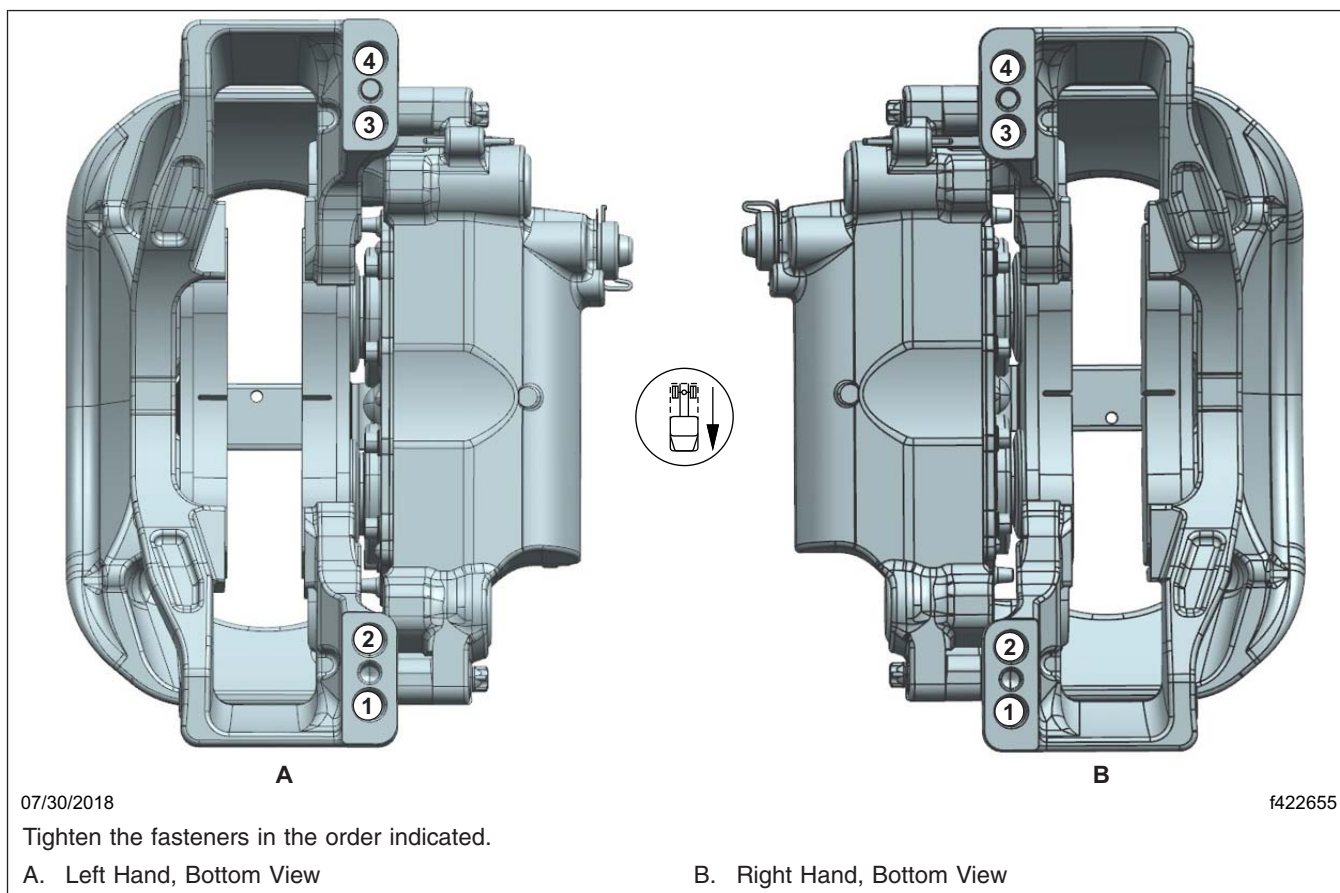

Fig. 13, Meritor Radial Mounted Caliper Tightening Pattern
4. Set a torque wrench to 350 lbf·ft (475 N·m) and tighten the caliper mounting bolts following the tightening pattern shown in **Fig. 13**. If they do not turn, no further work is needed. If they turn, take the vehicle to an authorized Freightliner dealer to have all of the caliper bolts on that wheel end replaced.